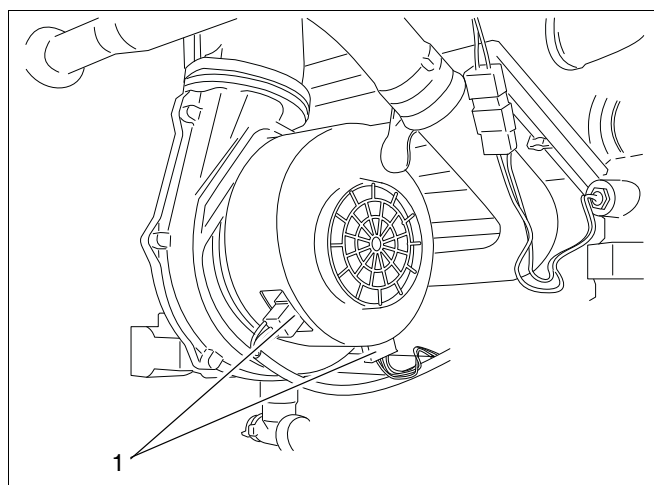

fig. 87 Disconnecting the cable plug from the fan unit
- Remove both cable plugs from the fan unit (see fig. 87, pos. 1).